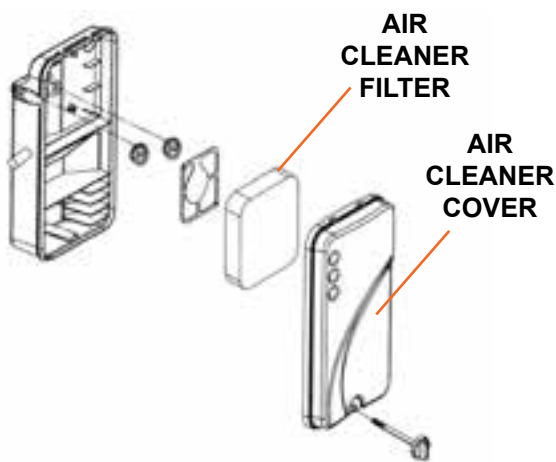

Figure 6
1. Wipe off the air cleaner cover. Loosen the knob at the bottom of the air cleaner housing (see Figure 6).